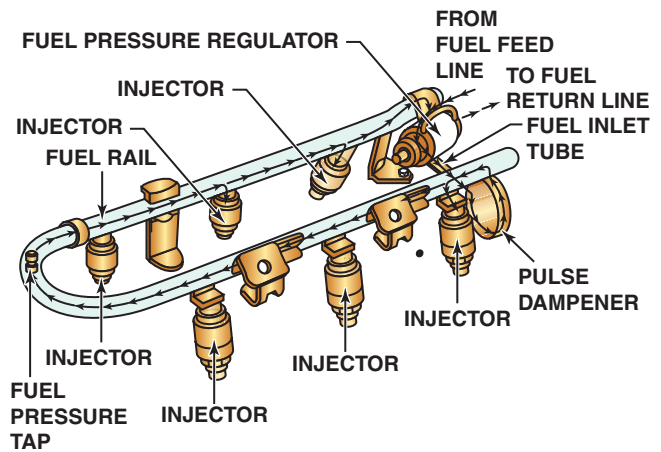

FIGURE 35-5 The injectors receive fuel and are supported by the fuel rail.
- Fuel distribution is equal to all cylinders because each cylinder has its own injector. ● **SEE FIGURE 35-5.**